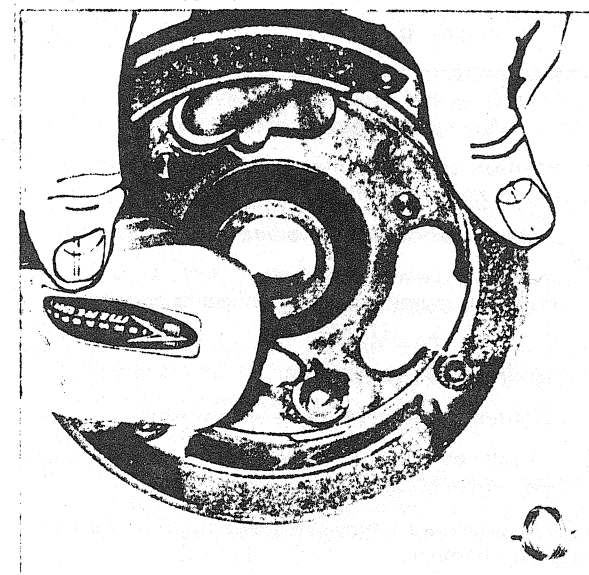

FIGURE 41
- Scrape the area clean of 'crystal clear' and grease the spring groove with 'quicksilver'. (fig. 41).
- Install the crankshaft holder on magneto ring with the three (3) nuts from the starter pulley.